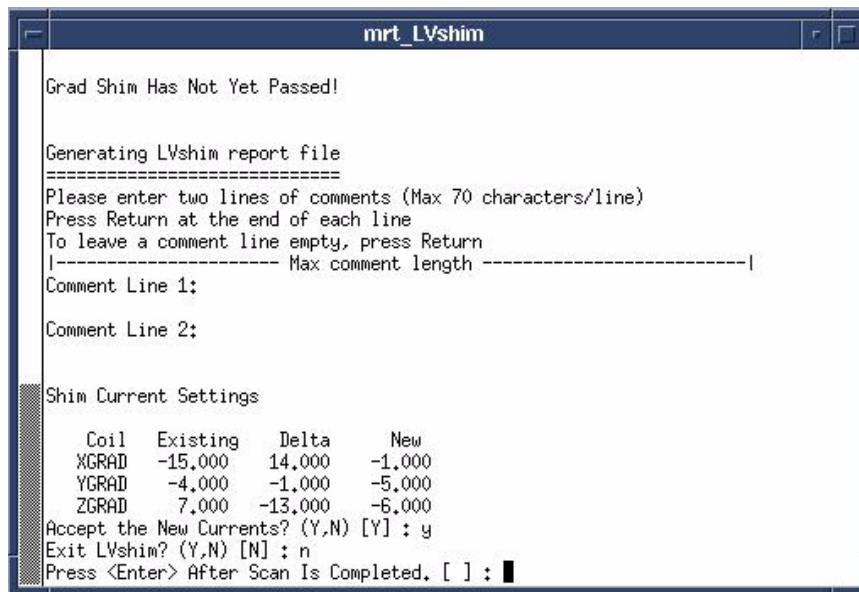

Figure 9
7. Return to the Scan prescription page and click the Scan button. When scans are complete return to the LVShim tool (**Figure 9**) and press the enter key.